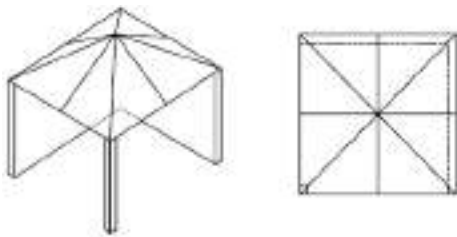

FIGURE F2—OUTDOOR AREA—EXAMPLE 2
(2) Within a partial enclosure that includes an overhead cover and no more than two walls. See figures F2 and F3.